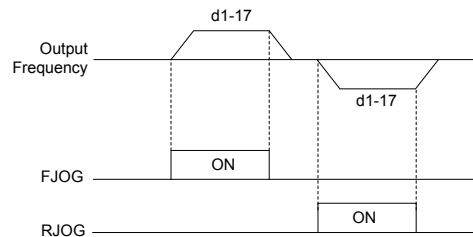

**Figure 1.56 Up/Down Command Operation**
*Figure 1.56* shows an Up/Down function example with a lower frequency reference limit set by d2-02, and the frequency reference hold function both enabled and disabled.